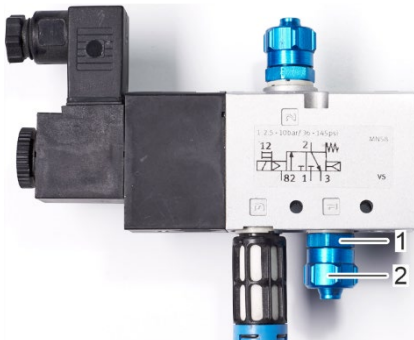

Fig. 66: Loosen union nut on connection 1
11. Loosen the union nut (Fig. 66/2) from the screw-in stud (Fig. 66/1) on connection 1 of the 3/2-way solenoid valve.